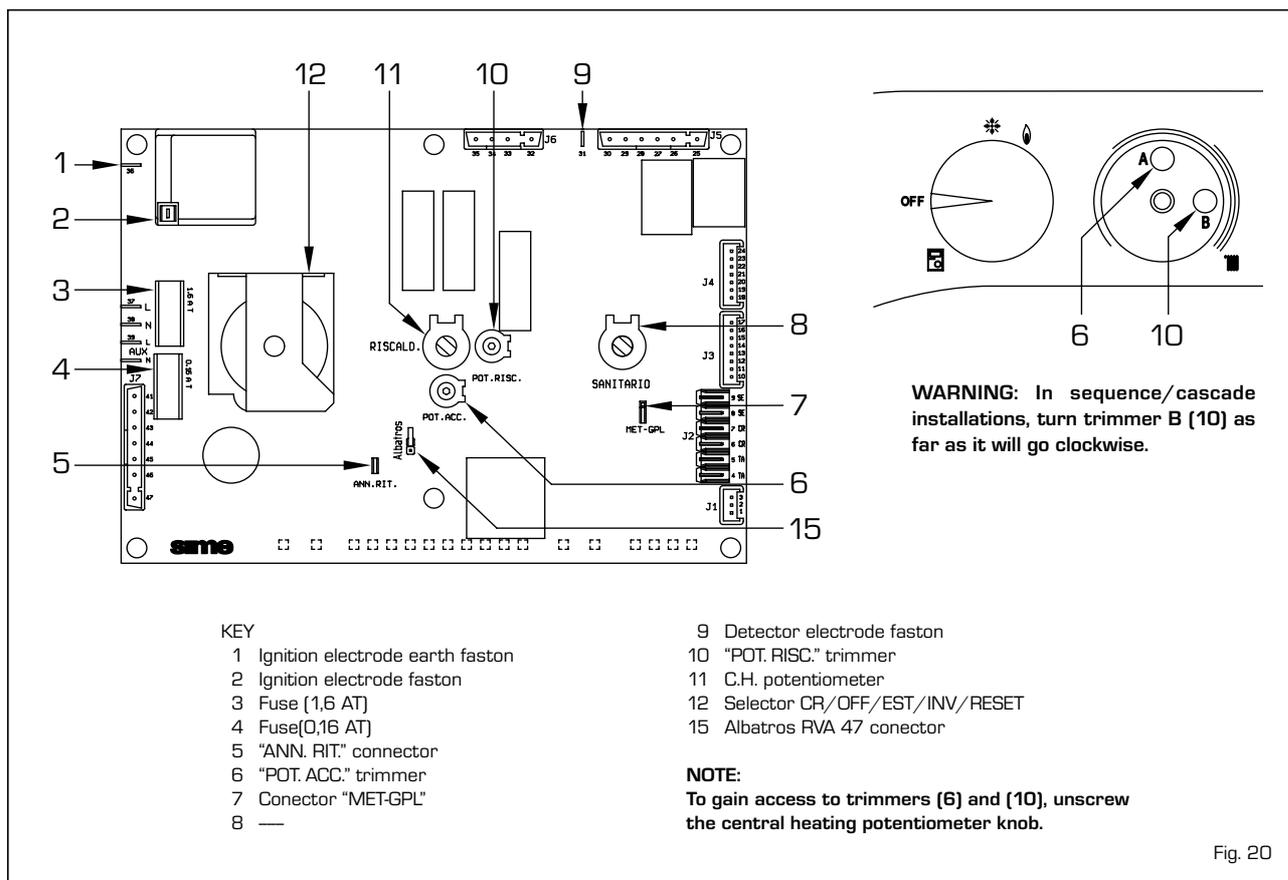

Fig. 20
- "POT. RISC." trimmer (10 fig. 20)
- "POT. ACC." trimmer (6 fig. 20)
- "MET-GPL" connector (7 fig. 20)
- "ANN. RIT." connector (5 fig. 20)
- "Albatros" connector (15 fig. 20)
To adjust boiler heat output for heating purposes, i.e., modifying the setting made at the factory which is approximately 17 kW, use a screwdriver to adjust the heating heat output trimmer (10 fig. 20). To increase working pressure, turn the trim-